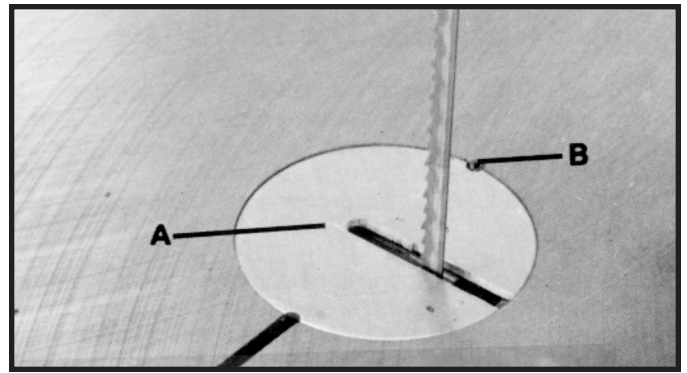

Fig. 17
Place table insert (A) Fig. 17, into the hole provided in the table surface, making certain the pin (B) in the table engages one of the indents in the table insert.